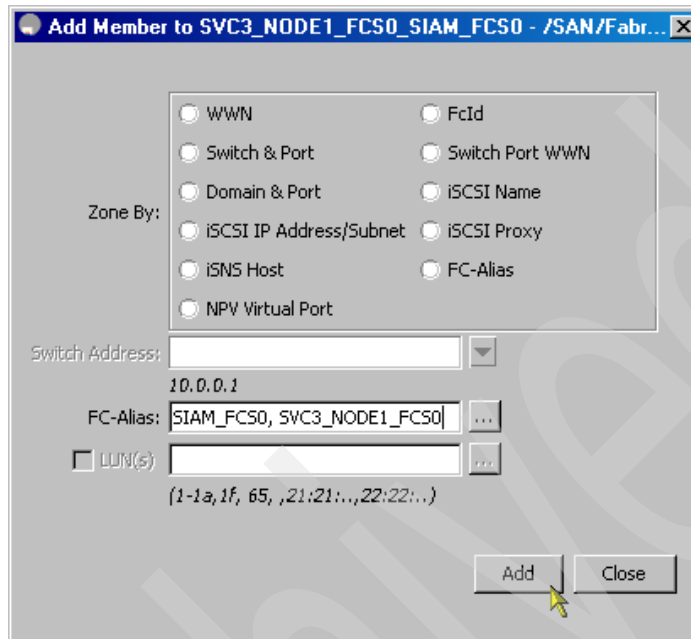

Figure 6-62 Adding FC-Aliases devices to the zone
6. Click **Add** to insert the chosen aliases as members of the zone, as shown in Figure 6-62.